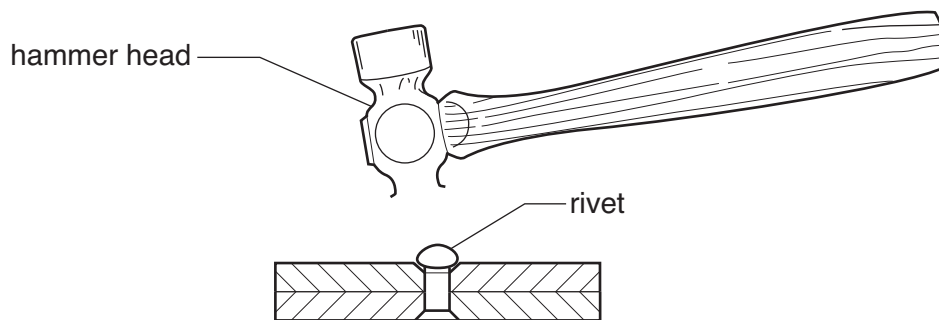

Fig. 2.1
- 2 Fig. 2.1 shows an incomplete drawing of two pieces of metal being riveted together.
- (b) Complete the shape of the hammer head that is about to strike the rivet in Fig. 2.1.